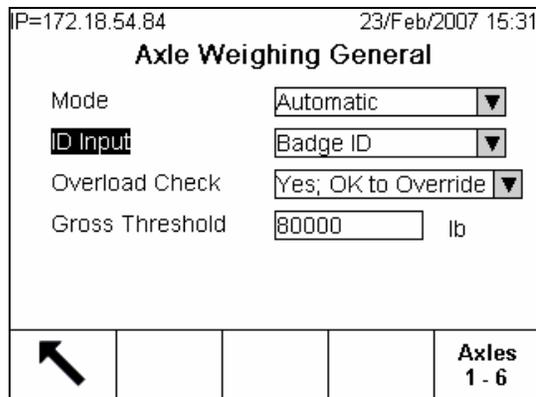

Figure 6-18: Setting ID Input in Axle Weighing General Screen
- In the Axle Weighing General setup screen, set the ID Input parameter to Badge ID (Figure 6-18).